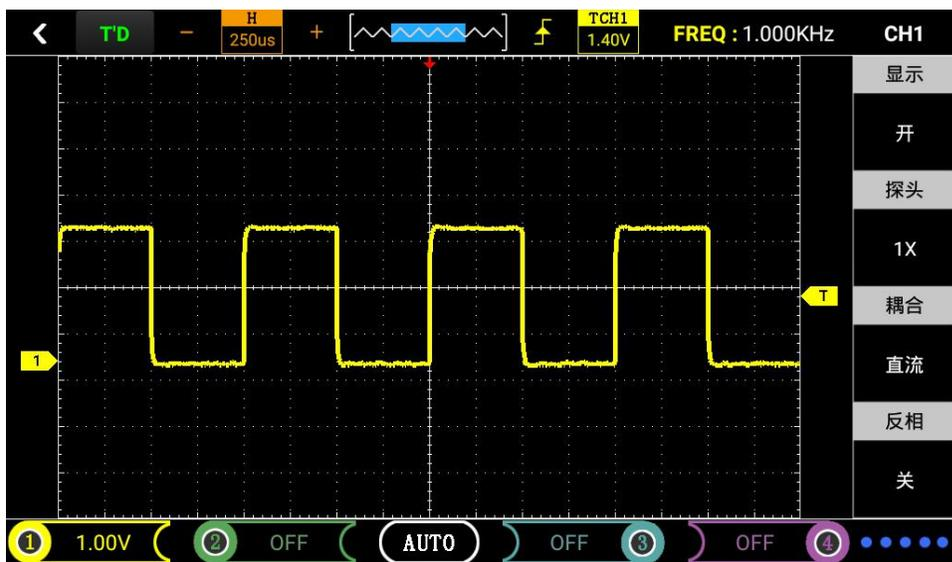

Figure 3-6
- If you set the vertical direction to 1.00V/div, the operation procedure is as above. As shown in Figure 3-6, 3-7.